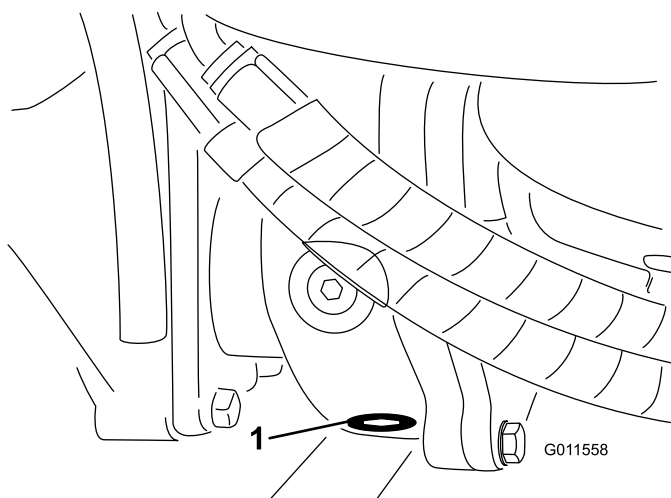

Figure 110
5. Clean the area around the drain plug at the bottom of the gearbox (**Figure 110**).